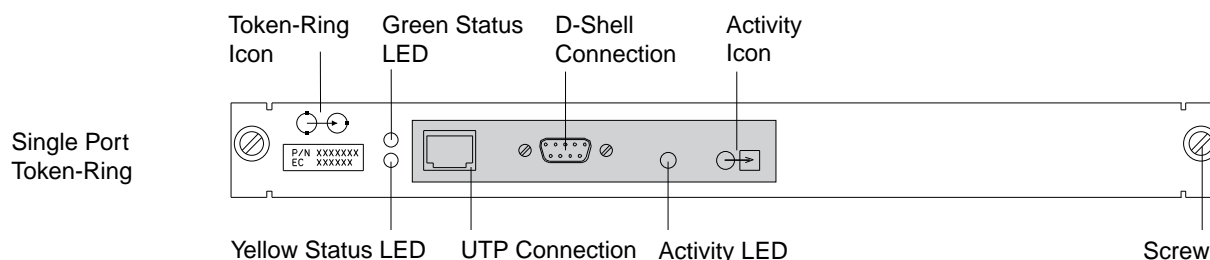

Figure 2-8. Single-Port Token-Ring Attachment Module
- b. ____ Connect cable **A** (PN 6339098) from the D-Shell connector of the token ring module (refer to Figure 2-8 on page 2-9) to the SPAU (8228).